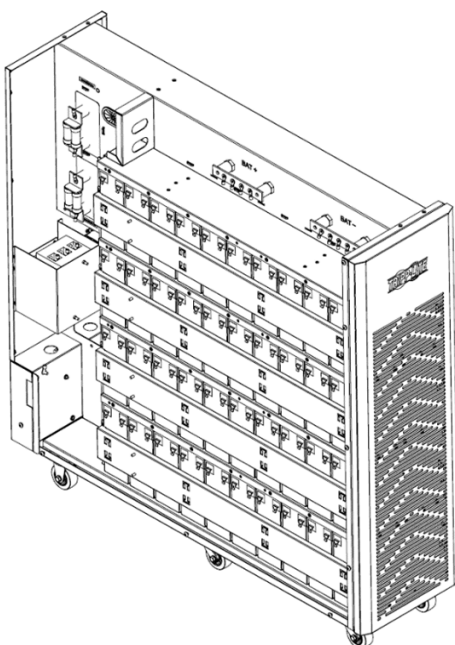

Figure 5-13A
16. Reinstall the right side and left side bracket bars of group 4 batteries (Figure 5-13A and 5-13B).